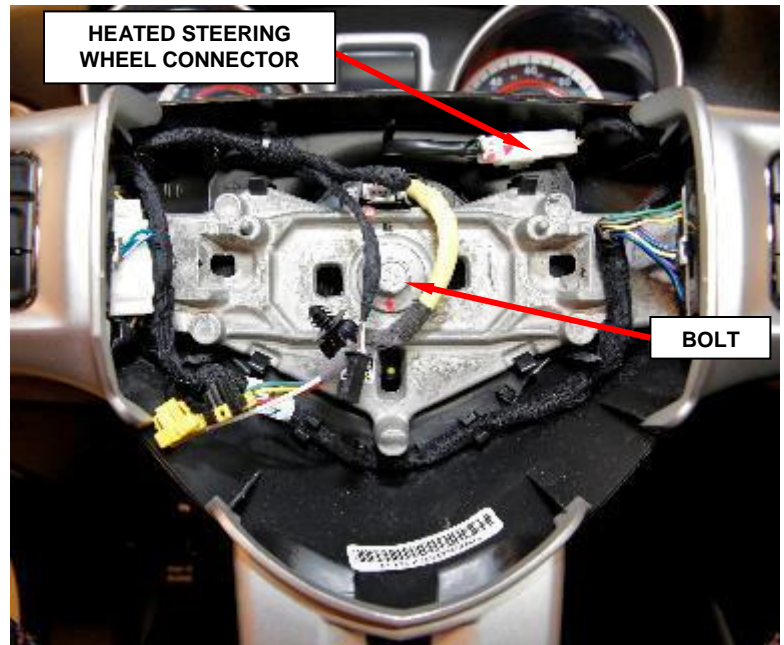

Figure 7 - Steering Wheel Bolt
1. Disconnect the heated steering wheel electrical connector, if equipped. (Figure 7).
2. Holding the steering wheel firmly in place, remove and **discard** the steering wheel retaining bolt from the steering column shaft (Figure 7).